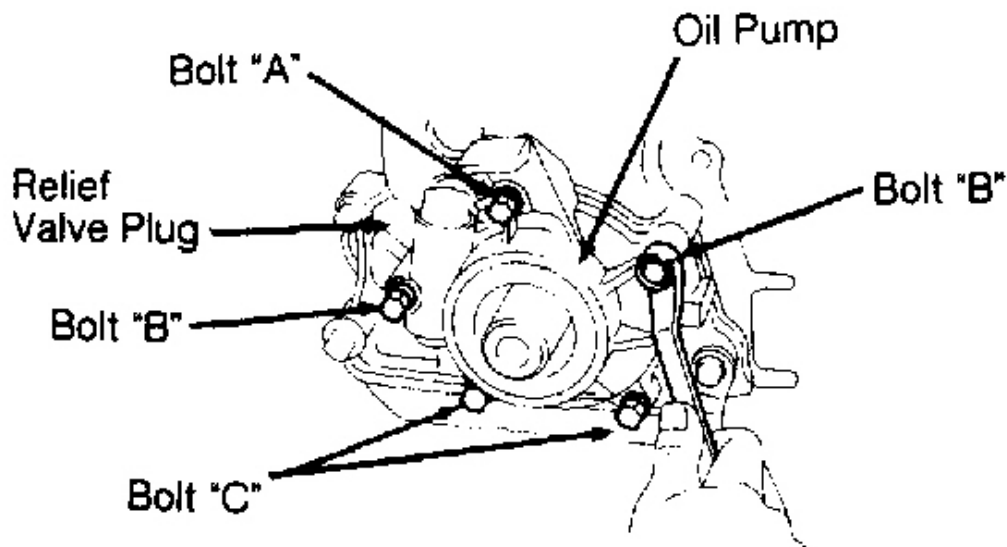

Fig. 17: Identifying Oil Pump Relief Valve Plug & Bolts
3. On all models, loosen oil pump relief valve plug. See **Fig. 17**. Remove 5 bolts and oil pump assembly. Remove oil pump drive spline from crankshaft and "O" ring from engine block. Remove relief valve plug, spring and piston from pump body. Remove driven and drive gear from pump body.
Reassemble pump, and lubricate seal lip. Install new "O" ring in block, and apply sealant to upper bolt "A". See **Fig. 17**. Install and tighten pump. To complete installation, reverse removal procedure. Tighten oil pump bolts to specification. See **TORQUE SPECIFICATIONS** TABLE at end of article.